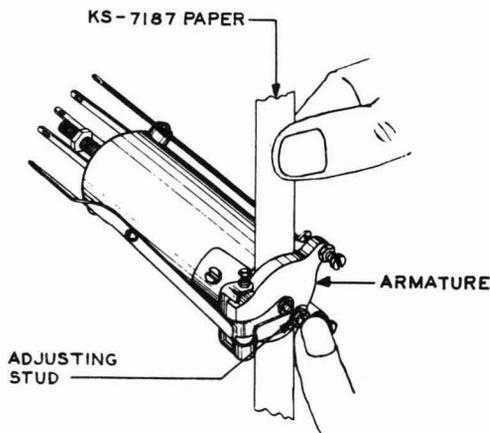

Fig. 48 – Method of Cleaning Armature and Shell on 114- and Similar-type Relays
7.06 Armature and Shell on 114-, 124-, 126-, 174-, and 198-type Relays: Insert KS-7187 paper between the armature and shell as indicated in Fig. 48. Operate the relay manually and withdraw the paper. Repeat the operation until all surfaces between the armature and shell have been cleaned and the paper shows no evidence of dirt when it is removed. Use a clean piece of paper for each operation.